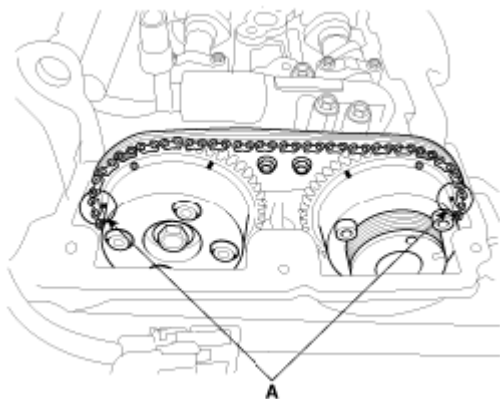
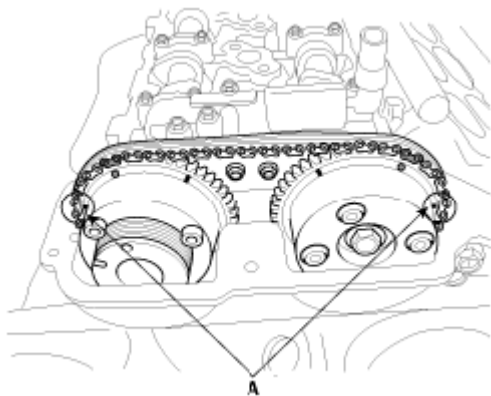

Fig. 33: Identifying Mark Of Camshaft Timing Sprockets (1 Of 2)
Fig. 34: Identifying Mark Of Camshaft Timing Sprockets (2 Of 2)
2. Check that the mark (A) of the camshaft timing sprockets are lined up on the cylinder head surface as shown in **Fig. 33** and **Fig. 34**. If not, turn the crankshaft clockwise one revolution (360°).